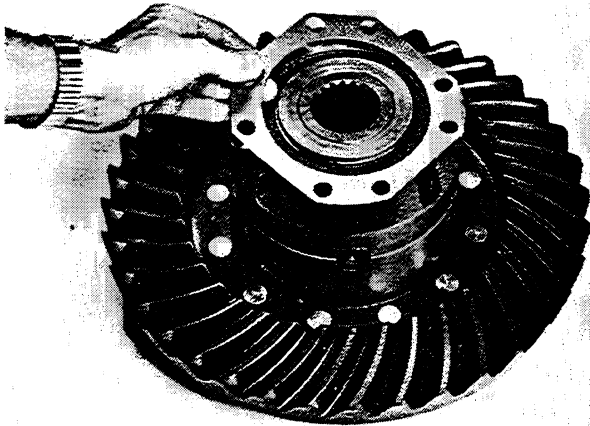

FIGURE 23: Bearing Cap Shim Installation
6. Reinstall any shims originally installed between the differential bearing cap and the case half. Refer to Fig. 23.